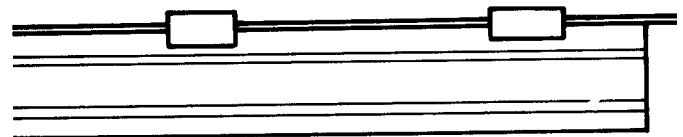

Fig. 20-4 Positioning Decal on Panel
(8) Position decal on panel and hold in place with small strips of masking tape (fig. 20-4). Be sure decal is aligned with decal on adjacent panels.